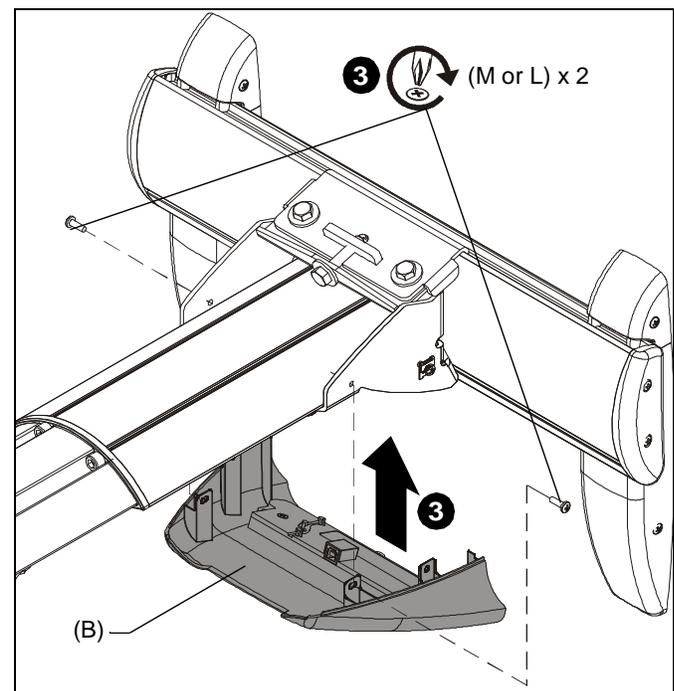

Figure 7
3. Raise the interactive cover (B) containing cartridge and attach to wall mount using two 8-32 x 3/8" Phillips pan head screws (M) [or using two 8-32 x 3/8" security button head screws (L)]. (See Figure 7)